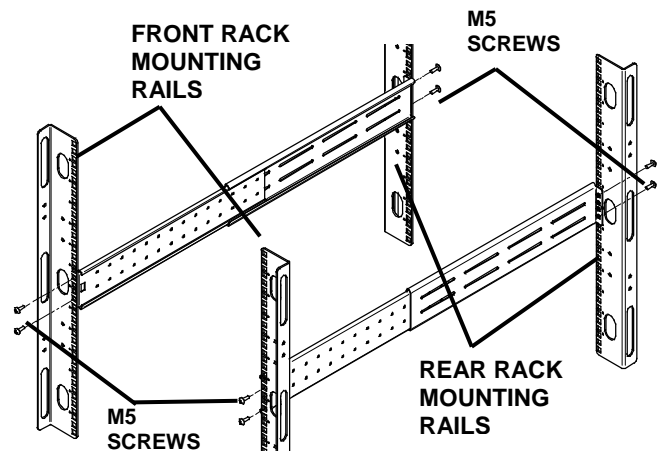

Figure 2
2. Determine the height position inside the Rack Enclosure where you want to mount the UPS or Battery Cabinet. **(CAUTION: REDUCE RISK OF TIPPING THE RACK ENCLOSURE BY PLACING UPS OR BATTERY CABINET IN THE LOWEST POSSIBLE RACK POSITION.)** Install Rear Member of each Bracket Assembly into Rack Enclosure with (2) M5 Screws provided in this kit. (See Figure 2) Return flanges on Bracket Assembly fit to the inside of Rack Mounting Rails. Insert Screws loosely (finger-tight) into top and bottom holes of return flange on Rear Member. Extend Bracket Assembly by sliding Front Member forward until it touches the front Rack Mounting Rail. Insert (2) M5 Screws loosely (finger-tight) into top and bottom holes of return flange on each Front Member. Make sure Bracket Assemblies are at the same mounting height on all (4) Rack Mounting Rails.